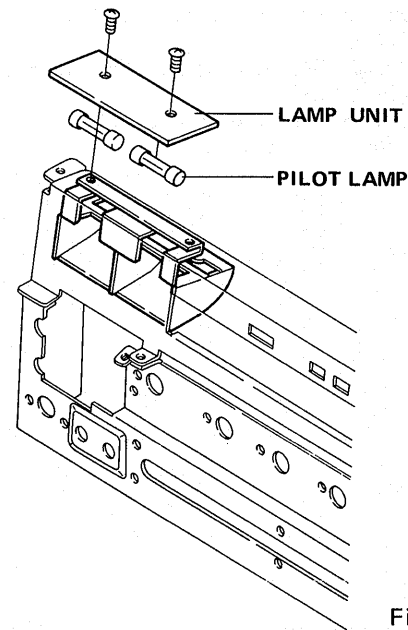

Fig. 16
2. Unscrew 2 screws, as shown in Fig. 16, to remove the lamp unit, then replace with a new one.